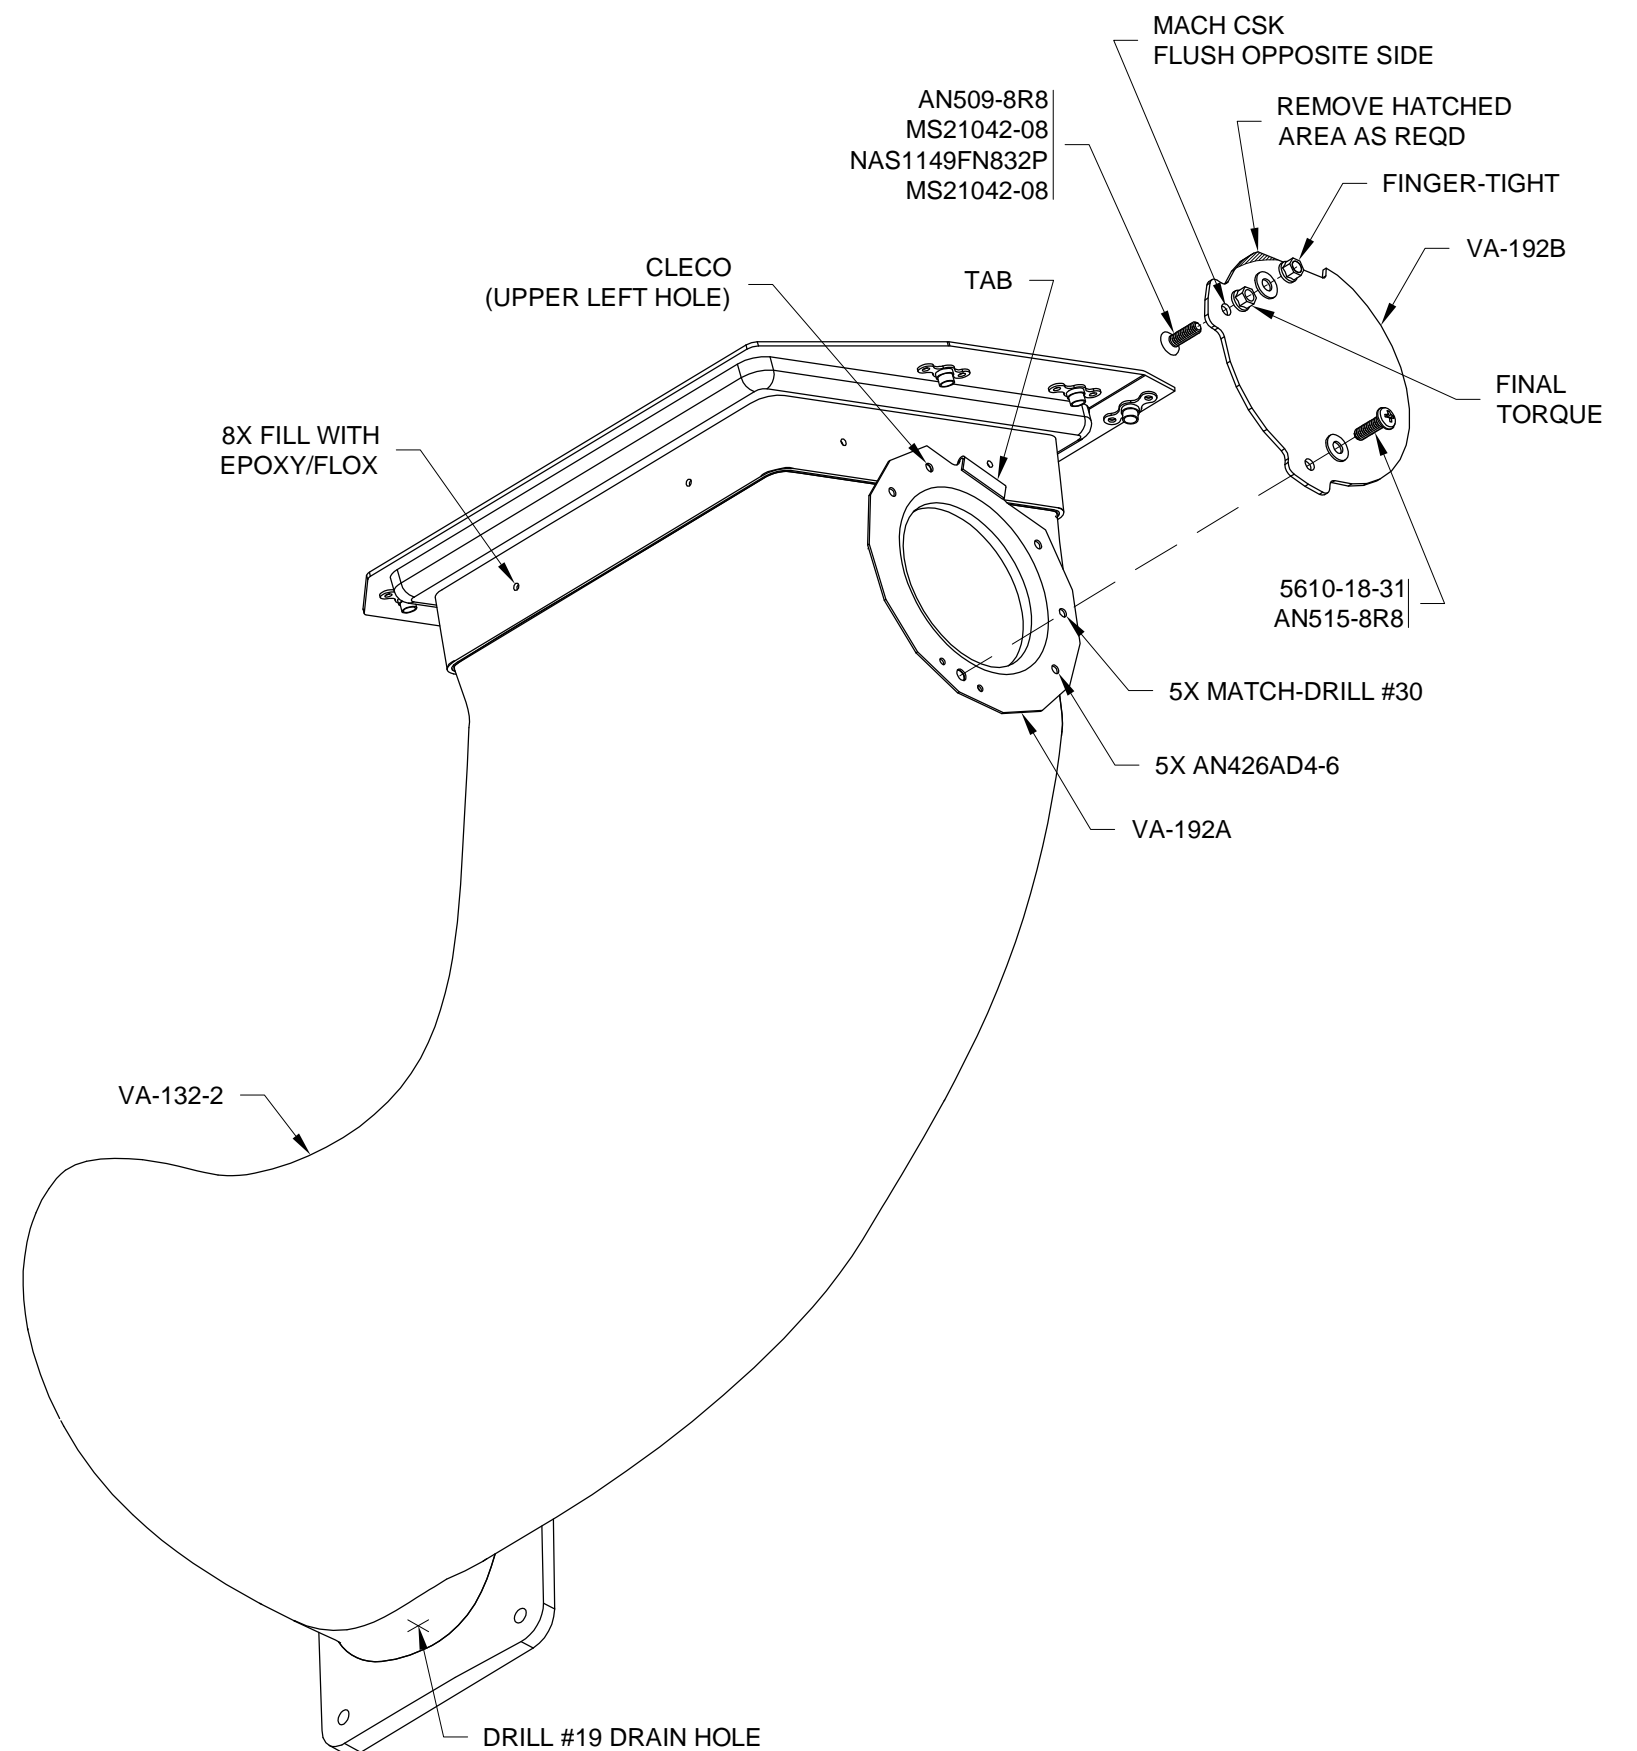

FIGURE 1: ATTACH ALT AIR INLET & DOOR
Step 1: Cut-out the right air ramp cone bending template shown in Figure 1 on Page 47-31.